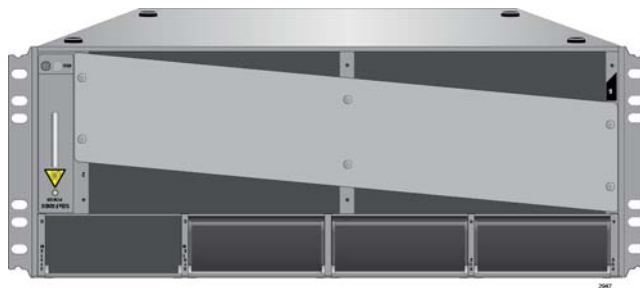

Figure 29. Turning the Chassis Upside Down
1. Place the unit upside down on a level, secure surface, as shown in Figure 29.